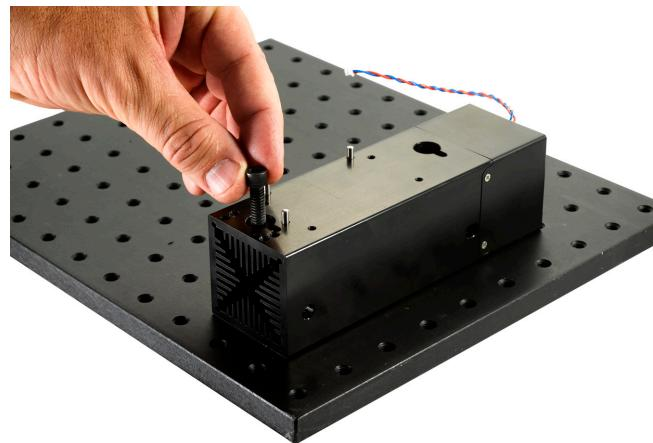

Figure 3-3. Bolt the Heatsink to the Desired Location
2. Fasten the heatsink to the desired location using 1/4-20 x 0.625" L or M6x16 mm mounting screws, as shown in Figure 3-3. Make sure the ends of the heatsink remain clear for correct air flow.